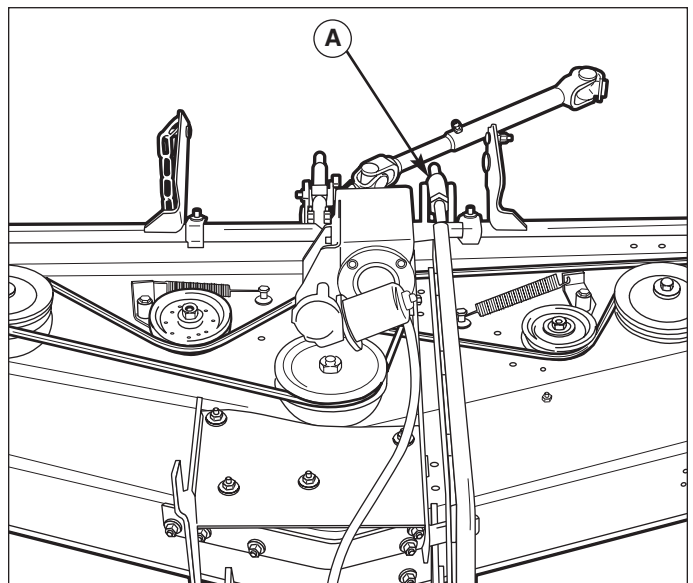

Figure 47. Front to Back Leveling
3. See Figure 47. Loosen the locknut (A) on the arm assembly. Adjust the jam nut on the arm until the mower deck is level or the front is 1/8" to 1/4" higher.